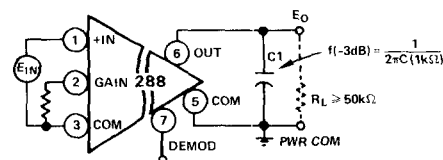

Figure 6a. Selecting Bandwidth with External Capacitor (C)
**Selecting Bandwidth:** In low frequency signal measurements, such as thermocouple temperature measurements, strain gage measurements and geophysical instrumentation, an external filter is used to select bandwidth and minimize output noise. As shown in Figure 6a, a capacitor connected between the OUT and OUT COM terminals will result in model 288's bandwidth set according to the following:  $f(-3dB) = \frac{1}{2\pi C(1k\Omega)}$ . For lowest noise performance, the filter capacitor should be located as close to the actual load as possible.